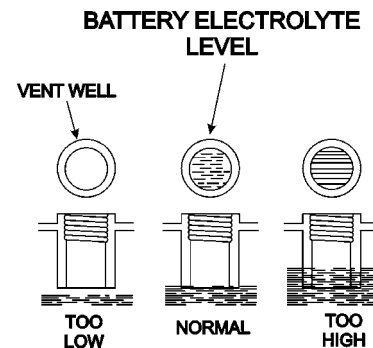

Figure 58. Battery Electrolyte Levels
7. Check the battery regularly and make sure that each electrolyte level is to the bottom of the vent well (Figure 58). If necessary add only distilled water in a well-ventilated area.